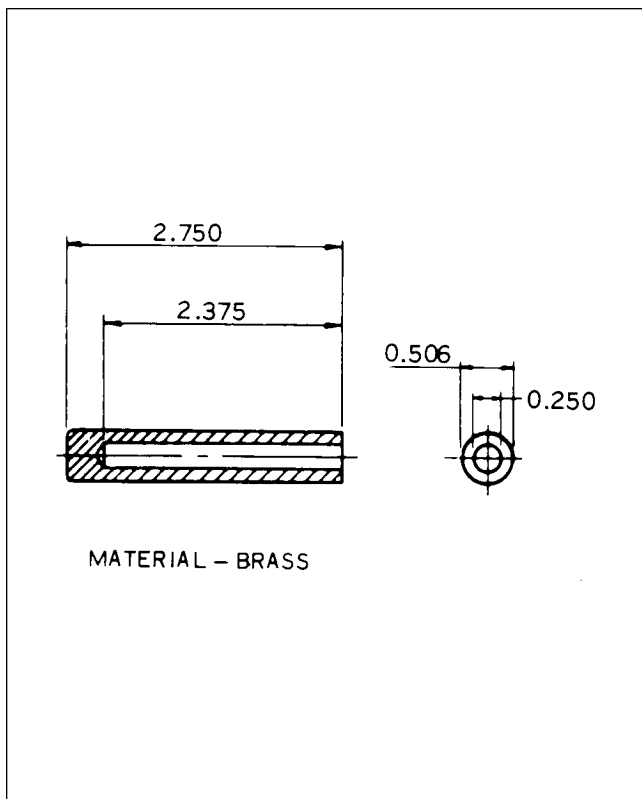

Figure 8-22. Ferrule Seating Tool
12. Pull the lead assembly back through cable outlet plate until cleaned braid binds in the outlet well. Position the Bendix 11-7074 Ferrule Seating Tool (Figure 8-22) over the insulation and firmly seat the ferrule by tapping the seating tool with a hammer or by using an arbor press.